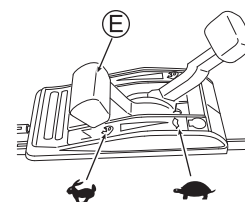

Fig. 13
- Confirm that there is no person behind you when pulling the starter knob (V).
- Securely hold the starter knob (V) when you pull it.
- Return the starter knob (V) slowly.
5. Warm up the machine before use. After the engine has warmed up, start mowing by setting the throttle lever (E) to "I/N". (See Fig. 13)